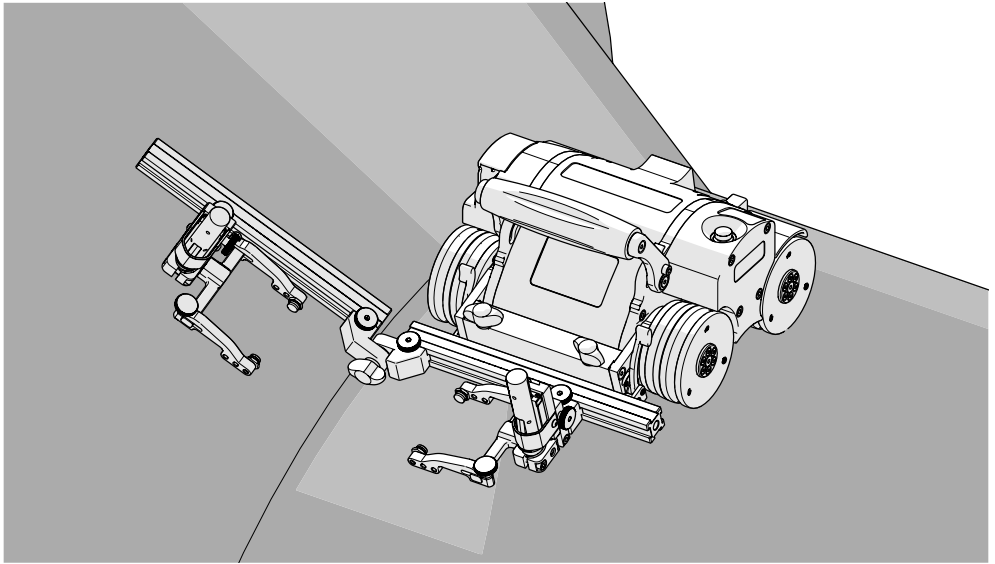

Fig. 195 - Align frame bar with flange scan surface
4. Loosen the pivot wing knob and align the frame bar parallel with the scan surface (*Fig. 195*).